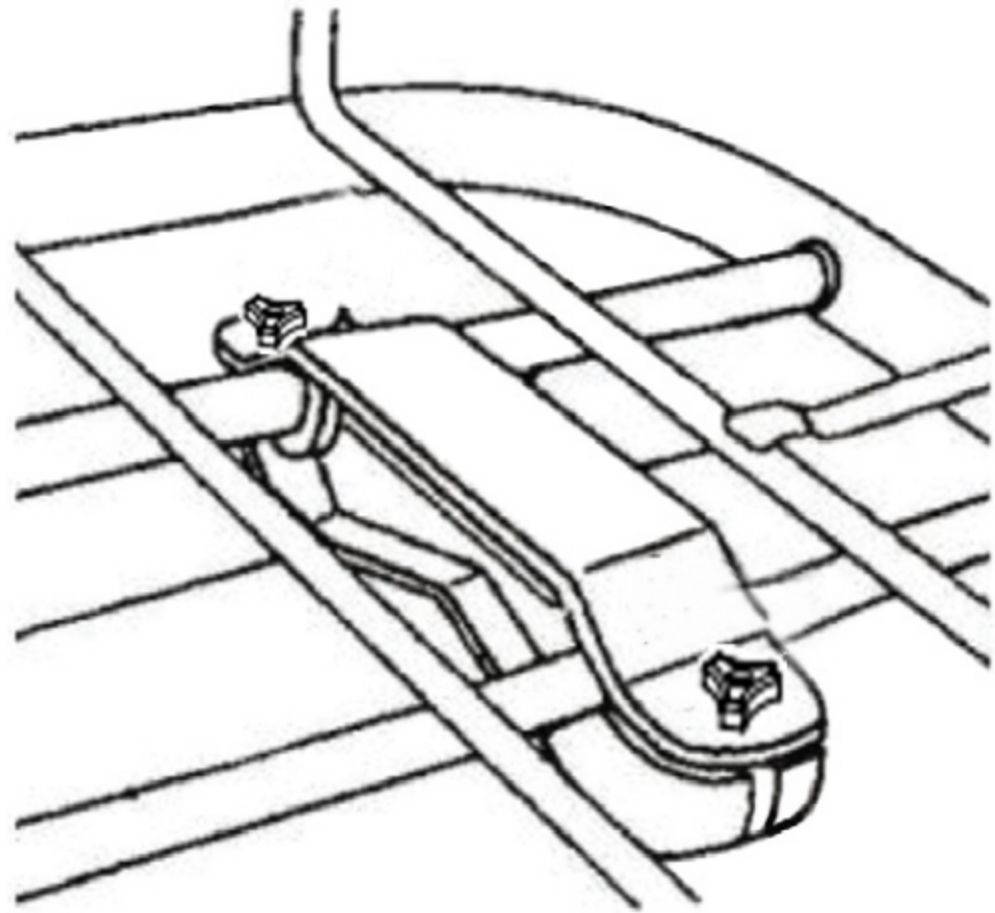

Figure 3
- 4) Snap a bracket saddle (3) into the basket as shown in **Figure 3**, the bracket saddle sits on the cross bar of your roof rack.